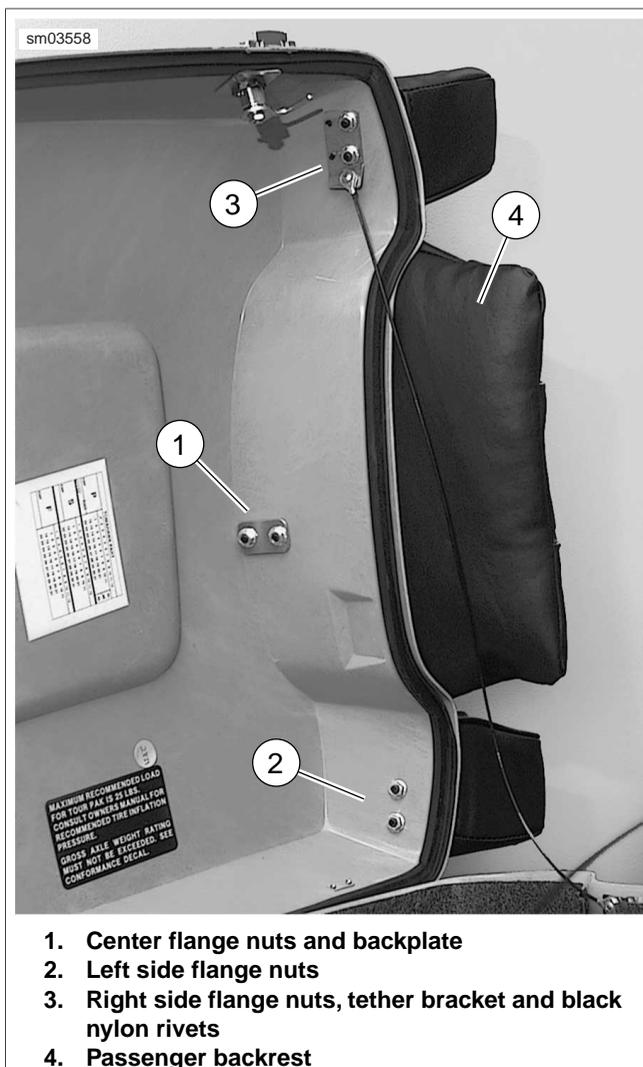

Figure 2-129. Tour-Pak Lid (Underside)
2. Remove two flange nuts and backplate to release center backrest from Tour-Pak lid. See Figure 2-129.